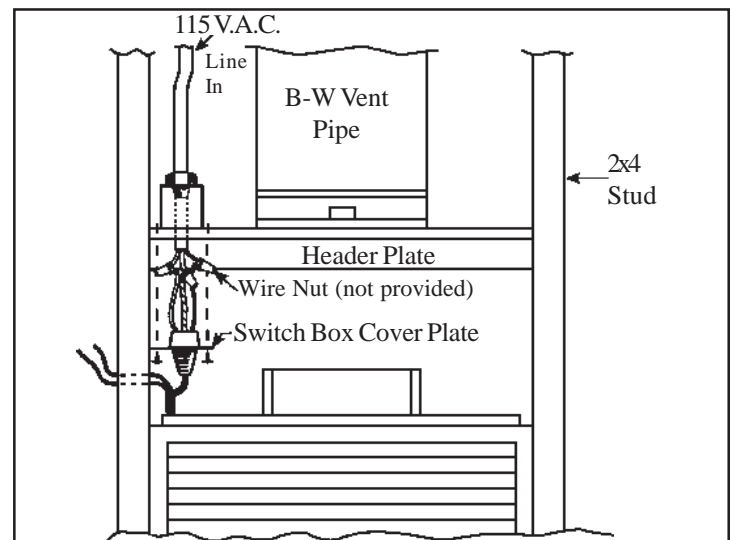
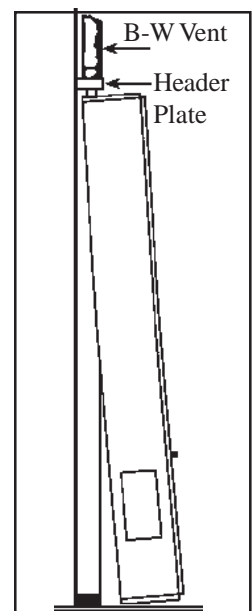

FIGURE 3
FIGURE 7
Consult local codes or ordinances. See Figure 3.
- STEP 7.** To place furnace into position, grasp furnace and lift so furnace flue vent and header plate vent opening engage. Plug power cord from top of heater into receptacle on bottom of the header plate, see Figure 3. Run thermostat wire through a drilled hole into an adjacent stud space. Do not route it behind the header plate. To do so may cause the thermostat wiring to chaff resulting in the appliance operating continually. Connect thermostat wire with thermostat wires extending from top of heater. Lift furnace upward and swing bottom into wall, see Figure 7. Secure furnace in place using 2 holes provided in bottom of casing.